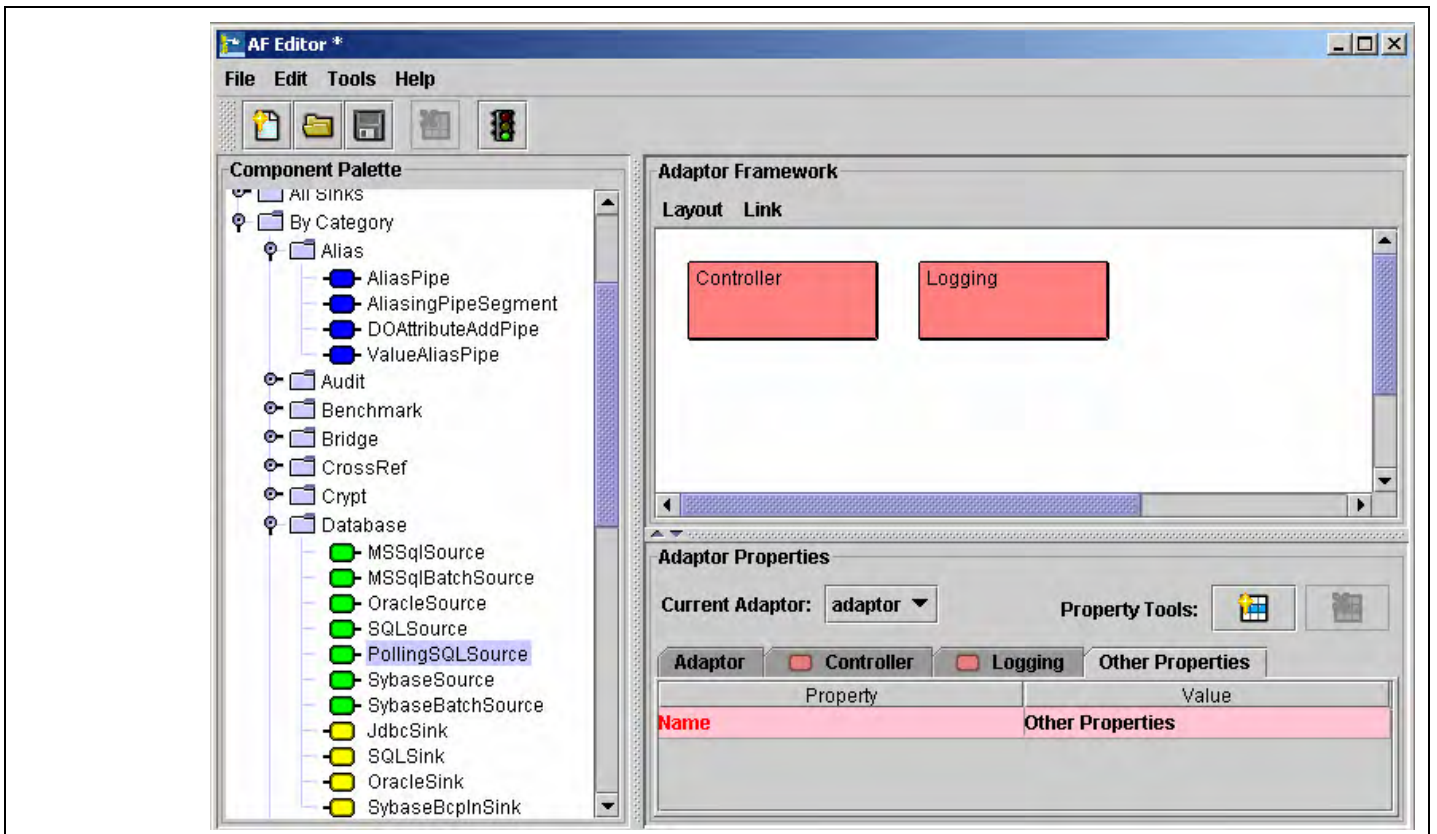

Figure 27: Component is Deleted
- 3 After you press the **DEL** key, the component is deleted, as shown in Figure 27.